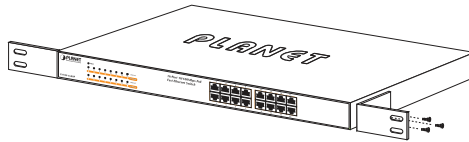

Figure 3-2: Attaching the Brackets to the 802.3at PoE+ Switch.
- Step2:** Attach a rack-mount bracket to each side of the 802.3at PoE+ Switch with supplied screws attached to the package. Figure 3-2 shows how to attach brackets to one side of the 802.3at PoE+ Switch.